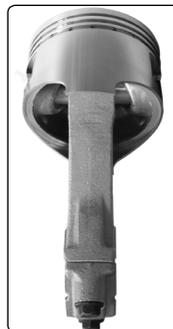

Fig.1
- 3.1 If fitted, remove the circlips from either side of the piston gudgeon pin (Fig.1).